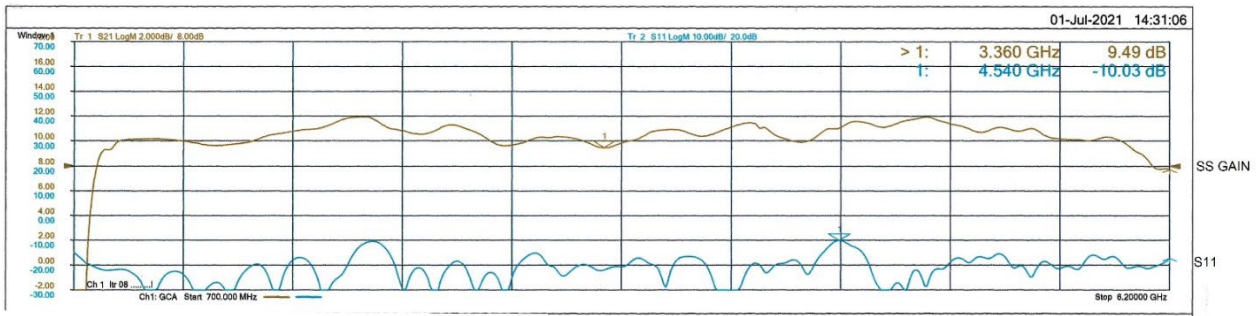

Figure 4-6 Typical A3 Quad Amp Gain Response
5. The Typical gain response for the A3 Quad Amp is shown in Figure 4-6.